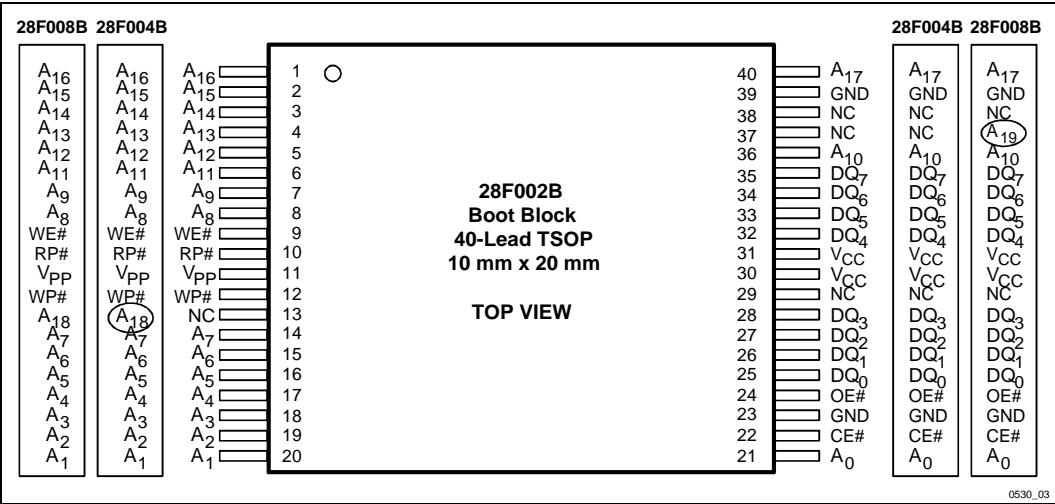
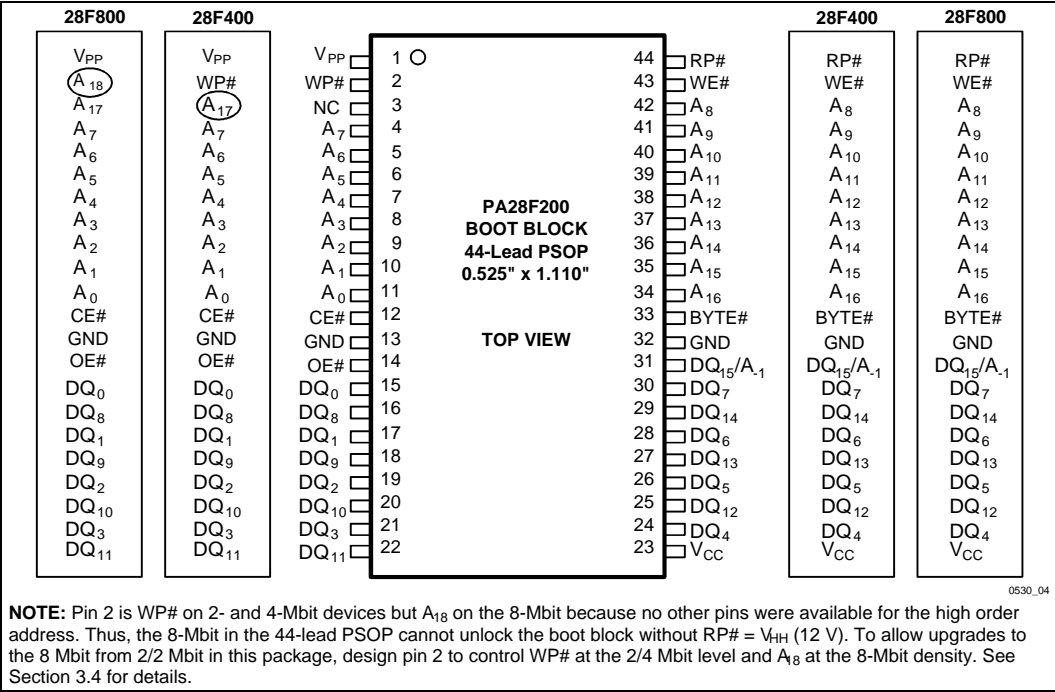
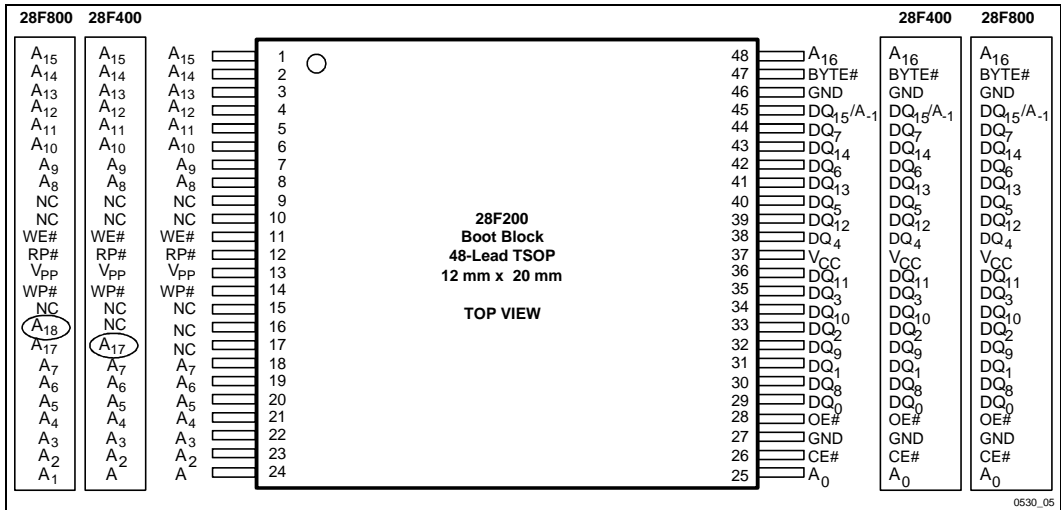
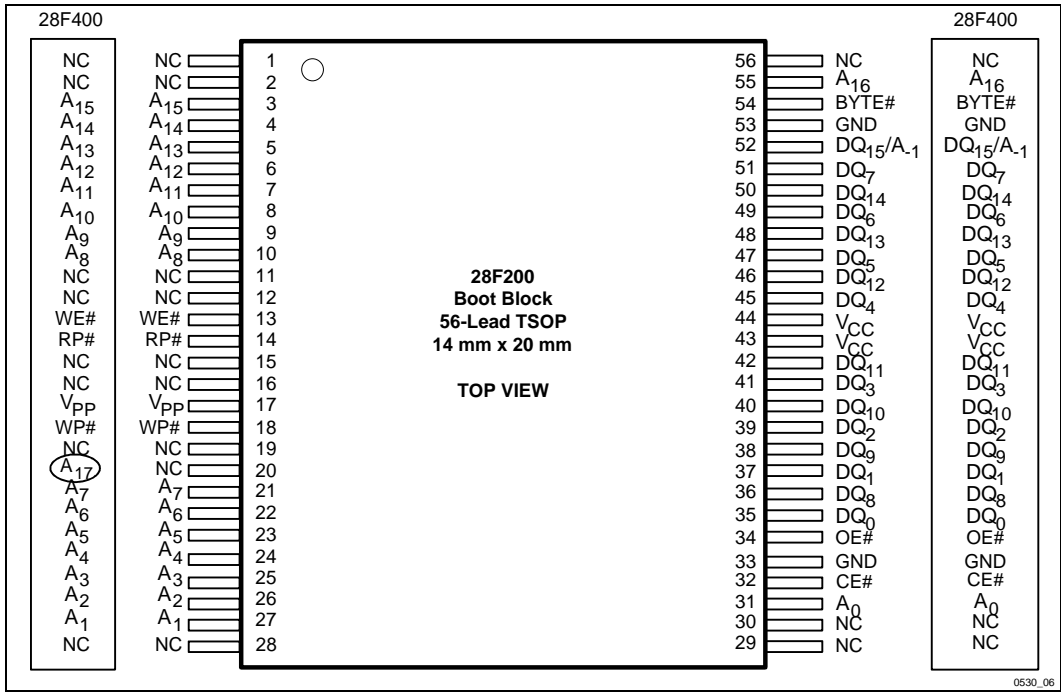

Figure 3. The 40-Lead TSOP Offers the Smallest Form Factor for Space-Constrained Applications
Figure 4. The 44-Lead PSOP Offers a Convenient Upgrade from JEDEC ROM Standards
Figure 5. The 48-Lead TSOP Offers the Smallest Form Factor for x16 Operation
Figure 6. The 56-Lead TSOP Offers Compatibility between 2 and 4 Mbits
-002	<p>Status changed from Product Preview to Preliminary</p> <p>28F200CV/CE/BE references and information added throughout.</p> <p>2.7 V CE/BE specs added throughout.</p> <p>The following sections have been changed or rewritten: 1.1, 3.0, 3.2.1, 3.2.2, 3.3.1, 3.3.1.1, 3.3.2, 3.3.2.1, 3.3.3, 3.3.4, 3.6.2.</p> <p>Note 2 added to Figure 3 to clarify 28F008B pinout vs. 28F008SA.</p> <p>Sentence about program and erase WSM timeout deleted from Section 3.3.3, 3.3.4.</p> <p>Erroneous arrows leading out of error states deleted from flowcharts in Figs. 9, 10.</p> <p>Sections 5.1, 6.1 changed to "Applying V_{CC} Voltages." These sections completely changed to clarify V_{CC} ramp requirements.</p> <p>I_{PPD} 3.3 V Commercial spec changed from 10 to 5 μA.</p> <p>Capacitance tables added after commercial and extended DC Characteristics tables.</p> <p>Test and slew rate notes added to Figs. 12, 13, 19, 20, 21.</p> <p>Test configuration drawings (Fig. 14, 22) consolidated into one, with component values in table. (Component values also rounded off).</p> <p>t_{ELFL}, t_{ELFH}, t_{AVFL} changed from 7 to 5 ns for 3.3 V BV-60 commercial and 3.3 V TBV-80 extended, 10 to 5 ns for 3.3 V BV-80 and BV-120 commercial.</p> <p>t_{WHAX} and t_{EHAX} changed from 10 to 0 ns.</p> <p>t_{PHWL} changed from 1000 ns to 800 ns for 3.3 V BV-80, BV-120 commercial.</p> <p>t_{PHL} changed from 1000 ns to 800 ns for 3.3 V BV-60, BV-80, and BV-120 commercial.</p>
-005	<p>Corrections: Figure 4, corrected pin designation 3 to "NC" from A₁₇ on PA28F200.</p> <p>Corrected typographical errors in Ordering Information.</p> <p>Added New Design Recommendations section to cover page.</p> <p>Updated Erase Suspend/Resume Flowchart</p>
The 28F200 products are available in a ROM/EPROM-compatible pinout and housed in the 44-lead PSOP (Plastic Small Outline) package, the 48-lead TSOP (Thin Small Outline, 1.2 mm thick) package and the 56-lead TSOP as shown in Figures 4, 5 and 6, respectively. The 28F002 products are available in the 40-lead TSOP package as shown in Figure 3.
Intel's SmartVoltage Boot Block architecture provides upgrade paths in every package pinout to the 4 or 8-Mbit density. The 28F002B 40-lead TSOP pinout for space-constrained designs is shown in Figure 3. The 28F200 44-lead PSOP pinout follows the industry-standard ROM/EPROM pinout, as shown in Figure 4. For designs that require x16 operation but have space concerns, refer to the 48-lead pinout in Figure 5. Furthermore, the 28F200 56-lead TSOP pinout shown in Figure 6 provides compatibility with BX/BL family product packages.
This product family features an asymmetrically-blocked architecture providing system memory integration. Each erase block can be erased independently of the others up to 100,000 times for commercial temperature or up to 10,000 times for extended temperature. The block sizes have been chosen to optimize their functionality for common applications of nonvolatile storage. The combination of block sizes in the boot block architecture allow the integration of several memories into a single chip. For the address locations of the blocks, see the memory maps in Figures 4 and 5.